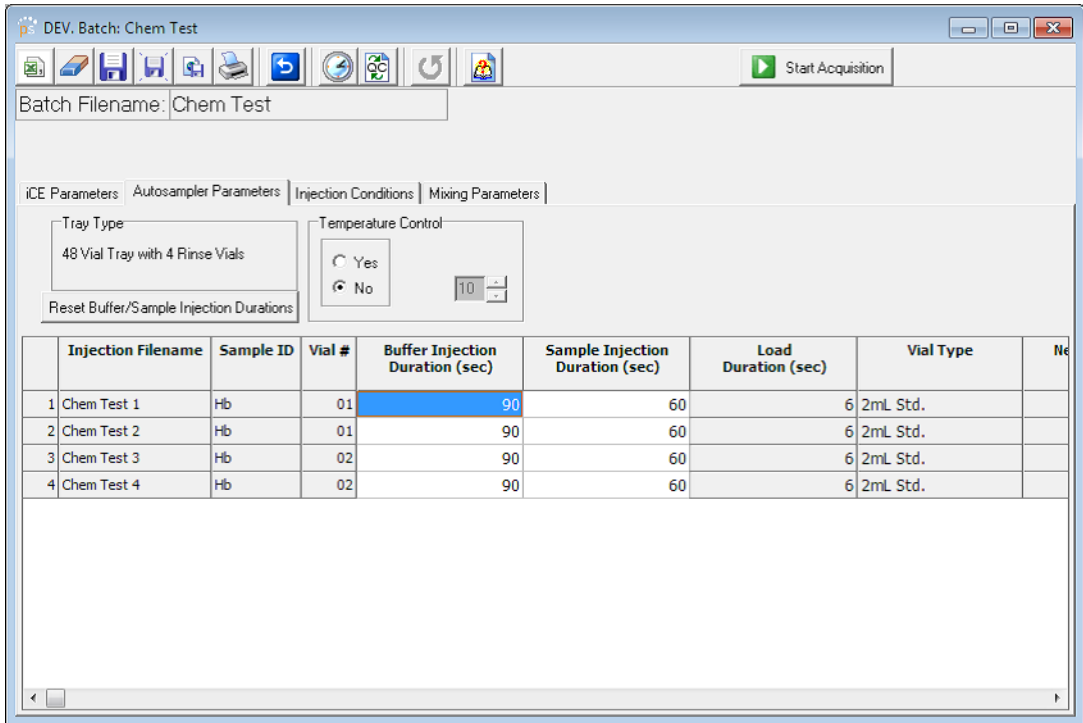

Figure 6-24: Autosampler Parameters tab.
18. Select the Autosampler Parameters tab (Figure 6-24). Use the scroll bar to view all parameters in the tab.